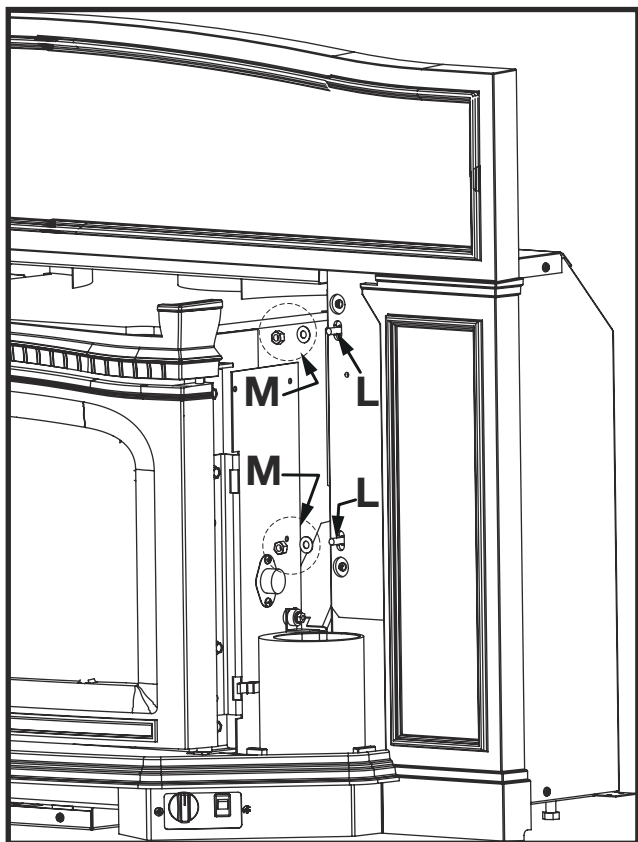

Figure 15: Install surround to firebox.
6. Attach surround to firebox by aligning with bracket studs (L) then fasten with washers and nuts (M) on each side (Figure 15).